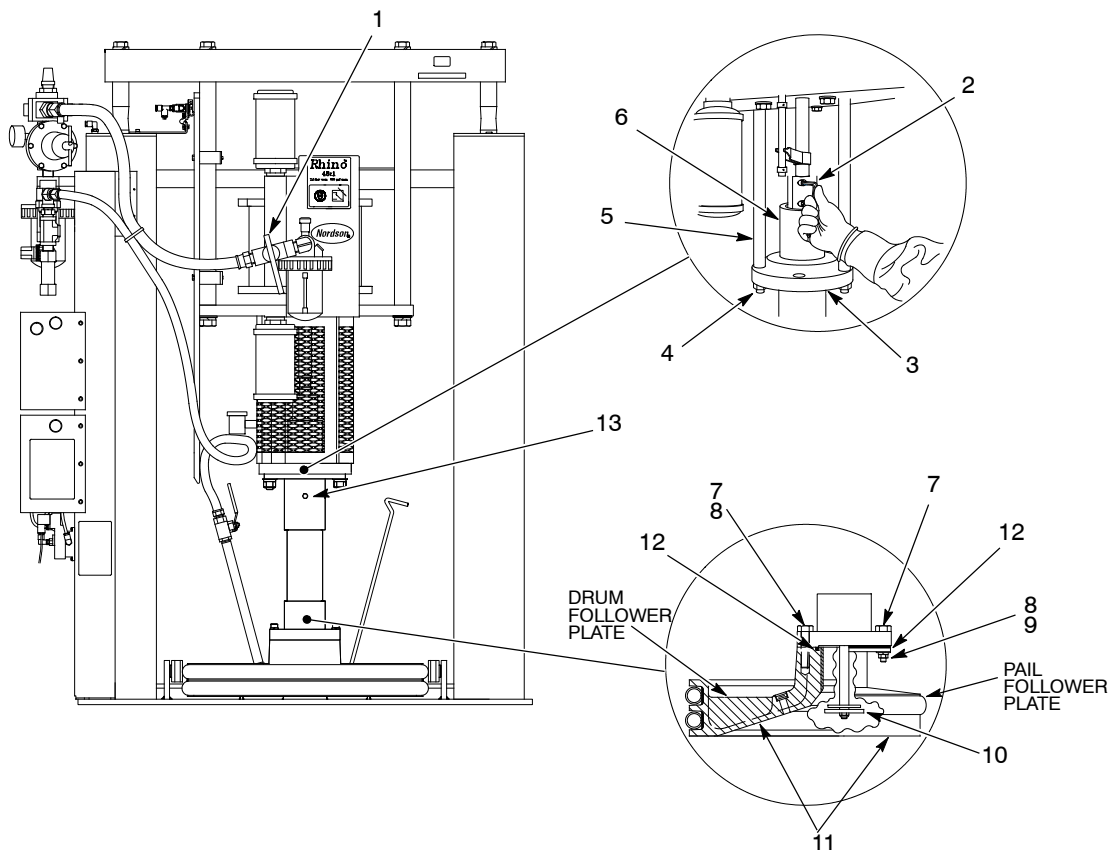

Figure 4 Removing the Hydraulic Section
2. See Figure 4. Shut off the compressed air supply at the air motor lockout valve (1).
1. See Figure 4. If the pump is operable, flush the system before disassembly. Refer to the applicable *Rhino Bulk Unloader Controls* manual for procedures.
2. Place several blocks of wood on the frame base, to prevent the follower plate from contacting the drum hold down assembly. Lower the follower plate (11) to the wood blocks.
1. See Figure 4. Carefully insert the shovel (10) through follower plate (9) and install the hydraulic section onto the follower plate.